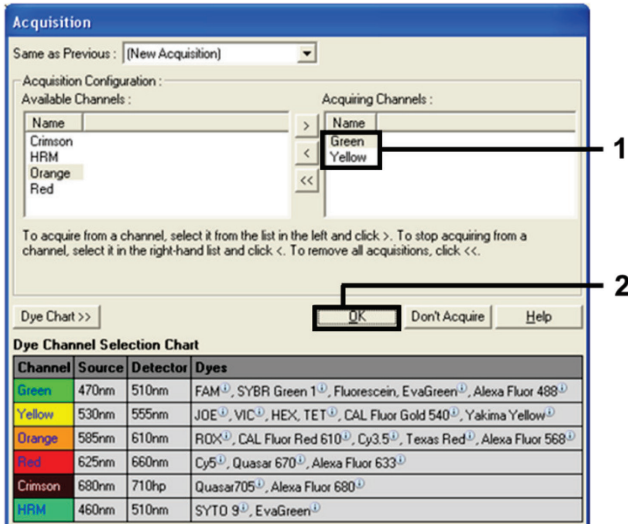

Figure 8. Acquiring at cycling step of 60°C.
10. Select **Green** and **Yellow** from **Available Channels** list, then click > to transfer them to the **Acquiring Channels** list. Click **OK** (Figure 8).